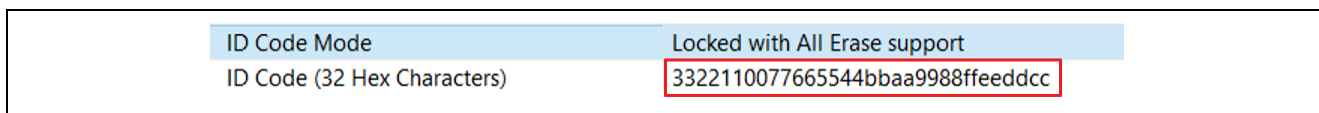

Figure 57. Setup ID Code in Configurator
Step 11: Reset the OSIS ID to all FFs in the configurator for the blinky project (see Figure 57) and compile the project.